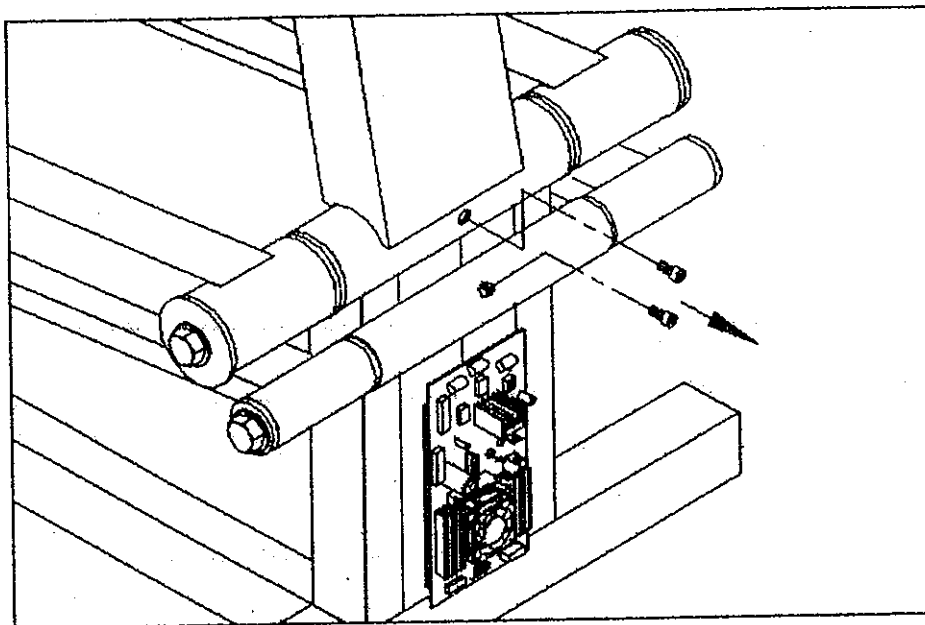

Fig. 10
9. Remove the two screws securing both stair arms (see Fig 10).